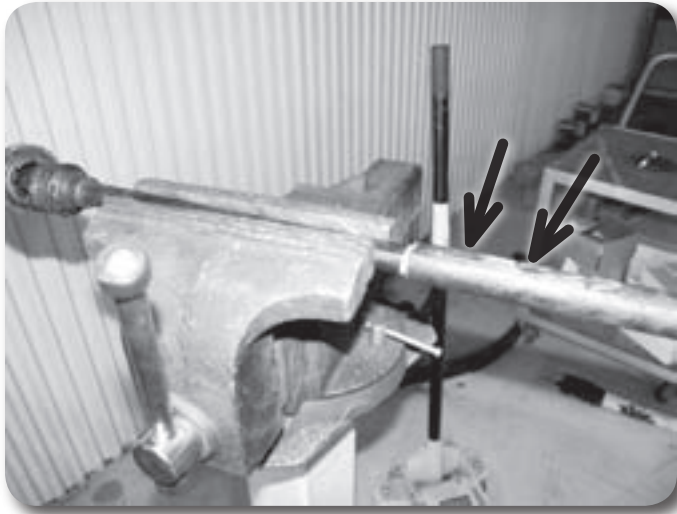

Figure 5
19. Clamp shaft in vice and carefully drill out locking points, do not use drill bit larger than 5/32", just drill through outer shaft casing – Fig 5.